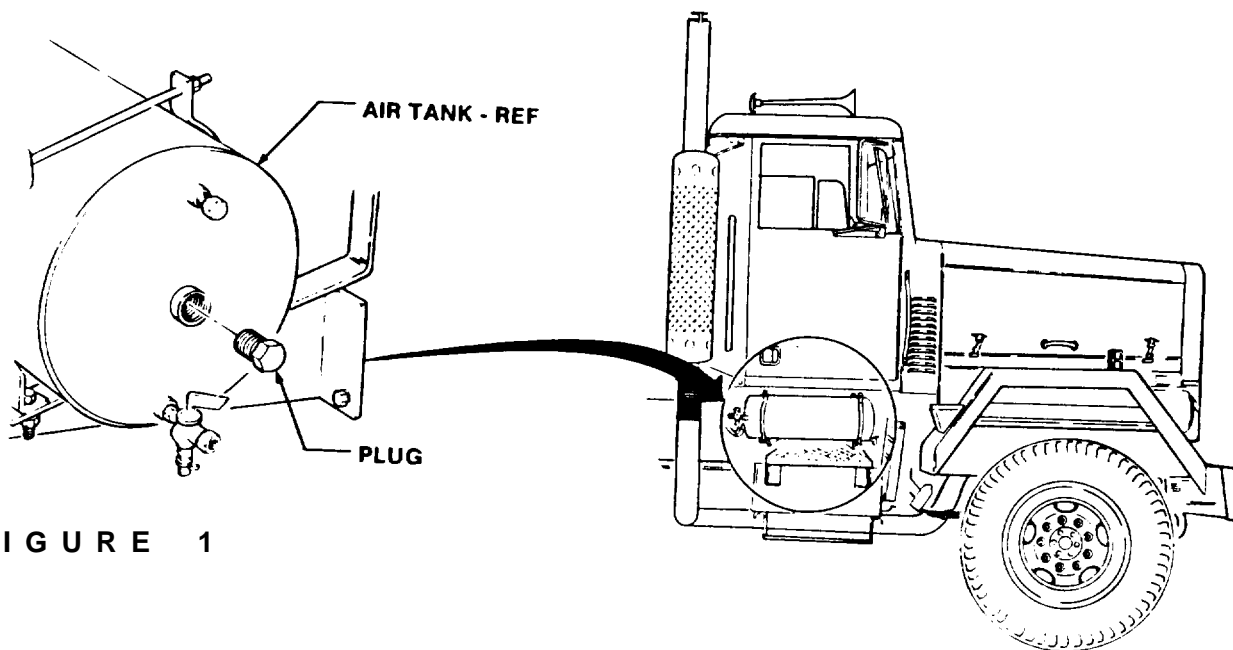

FIGURE 1
(1) Drain air system (refer to TM 9-2320-273-10).
(2) Remove plug from front of air tank as shown in figure 1.